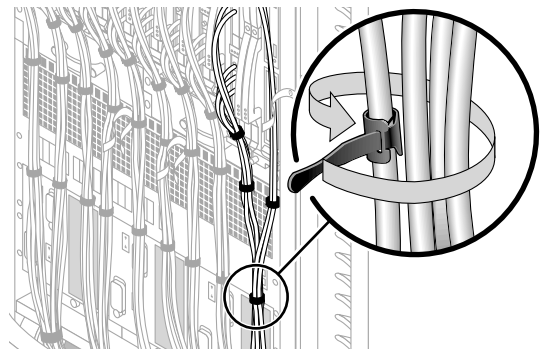

FIGURE 6 SC0 and Slot SB0 Cables—Front
- Repeat Step 5 and Step 6 for the remaining I/O board set cables, and include the SC cables when wrapping the cables for slot SB0 on the front of the system or slot SB9 on the rear of the system (FIGURE 6).